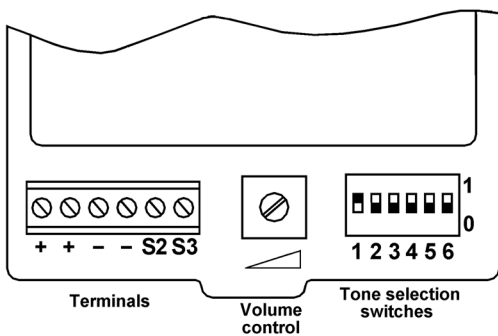

Fig 3 Location of field terminals and controls.
- Fit an appropriate 20mm cable gland or conduit entry into the untapped hole in the enclosure and connect the field wiring to the appropriate sounder terminals as shown in Fig 3. The power supply terminals + and - are duplicated so that sounders may be connected in parallel, or an end-of-line monitoring resistor may be fitted.
- Select the required output tone by positioning the six switches as shown in Table 1 and Fig 3.